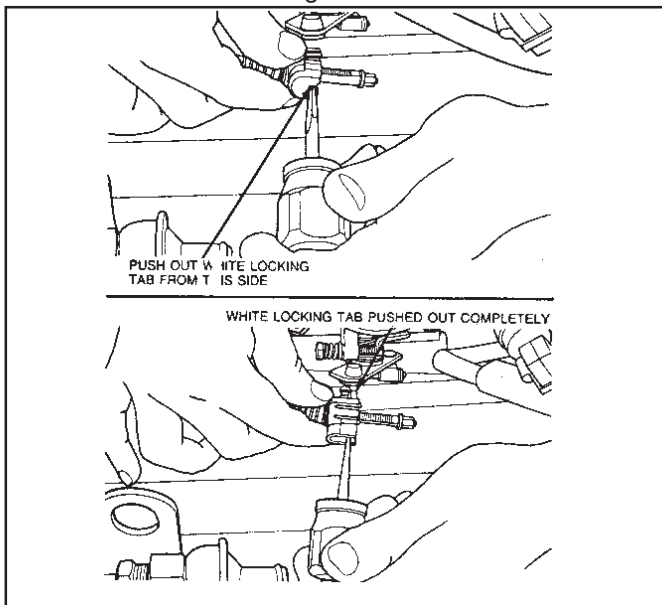

Figure 27
- 7.11 Push out locking tab. **(See Fig. 27.)**